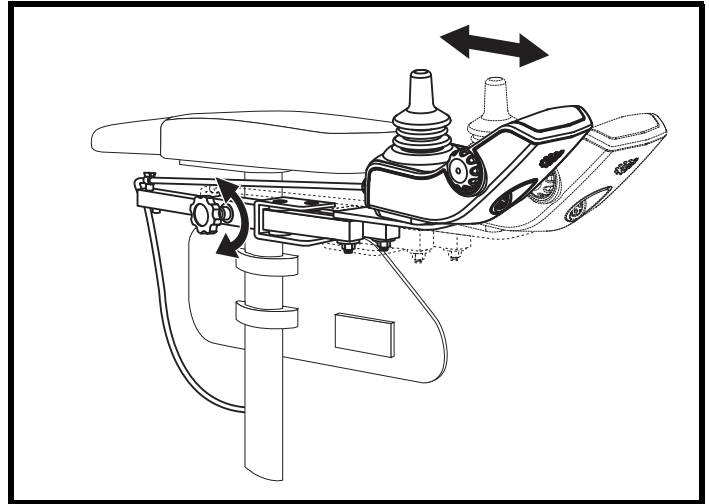

Figure 17. Controller Position
4. Loosen the adjustment knob on the armrest where the controller is currently located. See figure 17.